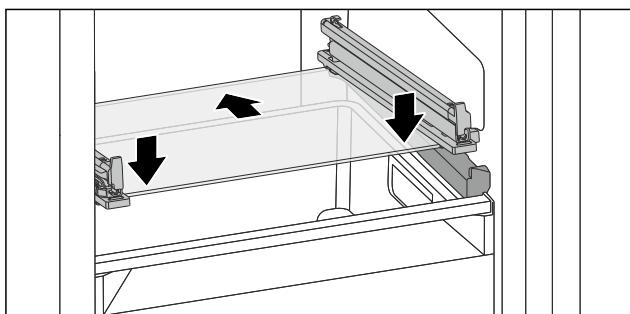

Fig. 105 Tilting drawer glass shelf
- Position glass shelf at an angle behind the stoppers. (see Fig. 105)